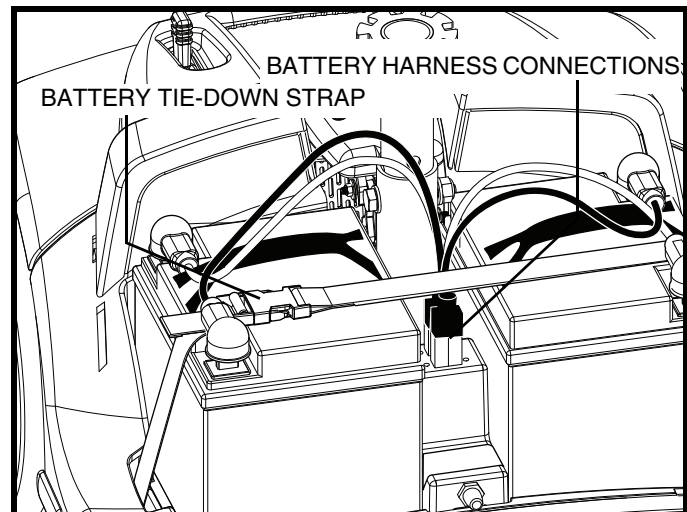

Figure 21. Harness Connections
4. Unplug both battery harnesses by pulling each harness straight up. See **figure 21**.
6. Connect both battery harnesses. **See figure 21.**